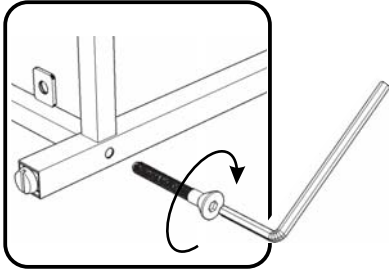

Figure 1
Attach Side (B) to Back Frame (A) with Tapered Bolts (long), tightening bolts only halfway. (See Figure 1)